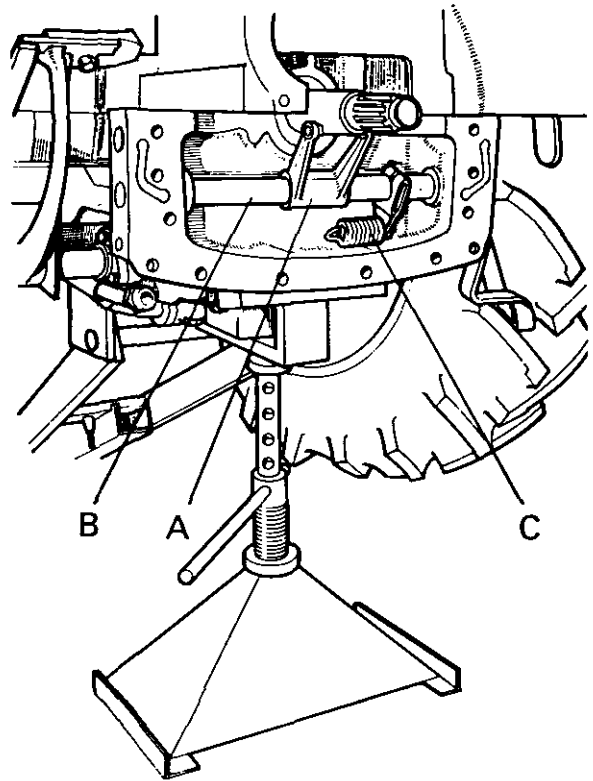

Figure 12.
15. With the aid of an assistant, carefully push front of tractor forward until there is a 3 to 4 in. (8 to 10 cm) gap in frame. Remove bolt attaching return spring lever to transmission cross shaft (Fig. 12) so that shaft can turn as main frames are moved further away. If release bearing is fitted with a lubrication pipe, disconnect this from side of main frame.
To ensure driven plates are centralised, and thus permit driveshafts to be engaged as the two halves of tractor are brought together, a pilot tool made to the dimensions shown in Fig. 12 is required.